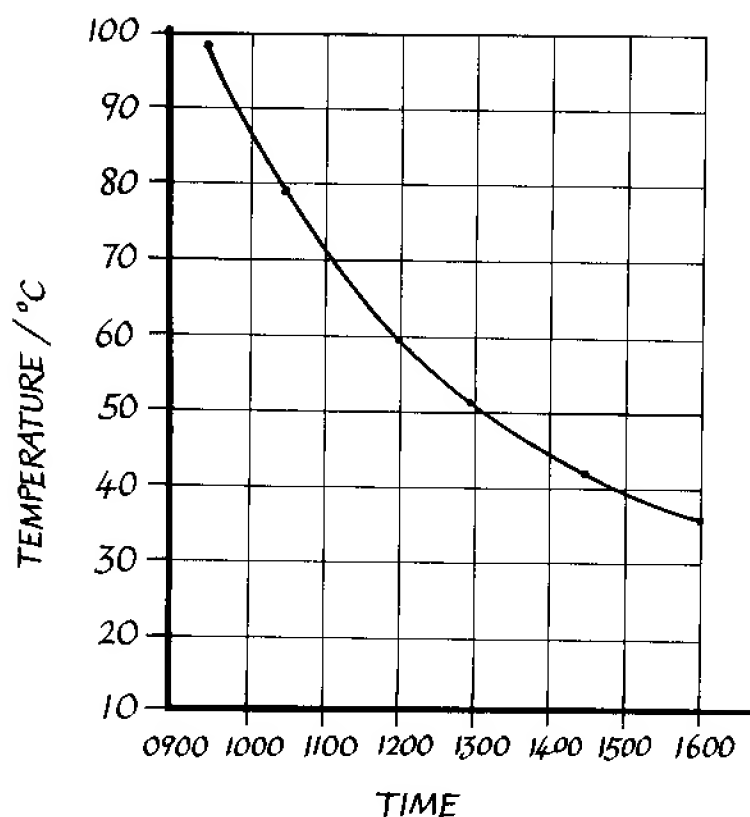

Figure 23.4 Graph of one set of specimen readings in Table 23.1
N.B. The readings in Table 23.1 are only examples and have been used to plot the graph in Figure 23.4.
- From your results, you should plot two graphs on the same axes ('Time' on the horizontal axis and 'Temperature' on the vertical axis), so that the rate of cooling in the two inserts can be compared. Figure 23.4 shows how one of your graph lines might appear.